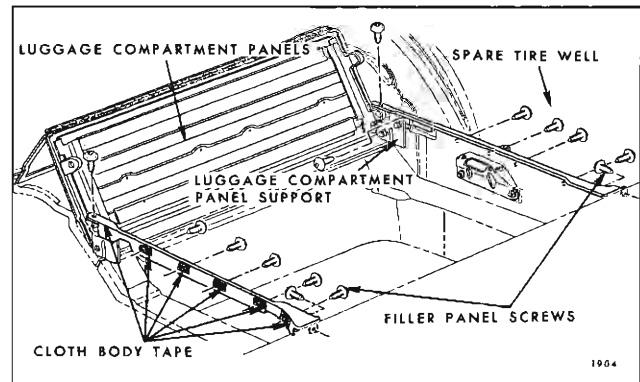

Fig. 1H30—Rear Compartment Pan Side Filler Panels
2. Fold combined front and rear luggage compartment panels to "up" or half open position. (See Fig. 1H30).
3. Remove bolt (Fig. 1H31) at both sides of front panel securing front and rear panel assemblies to supports; then remove assembly from body.